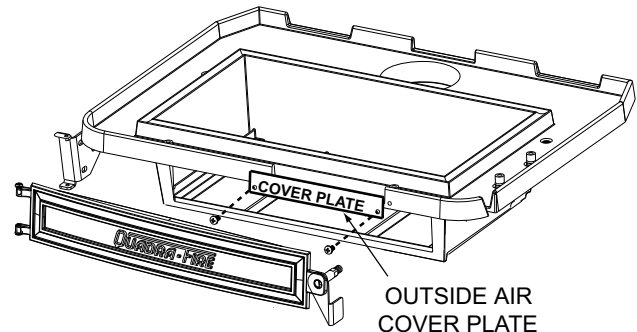

Figure 17B
3. Remove 2 screws from the stove bottom. Place cover over the air opening and secure with same 2 screws. **Figure 17B.**